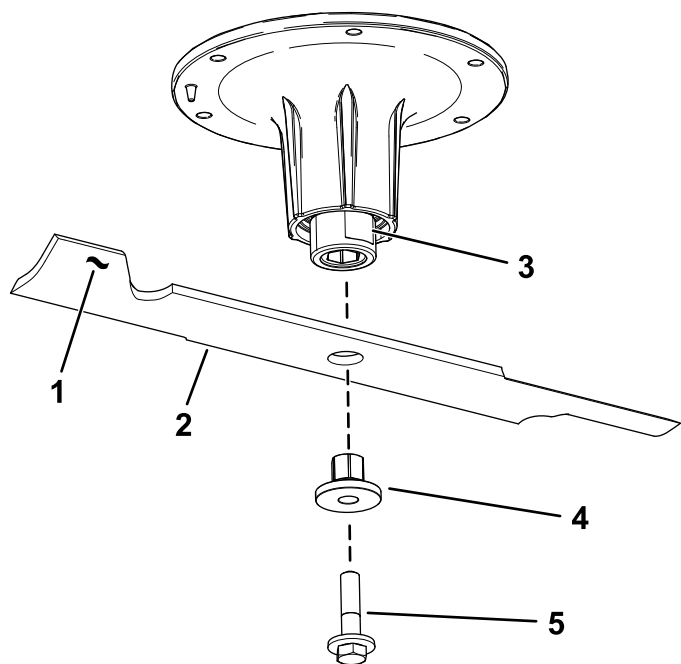

Figure 79
2. Remove the blade bolt, bushing, and blade from the spindle shaft (Figure 79).